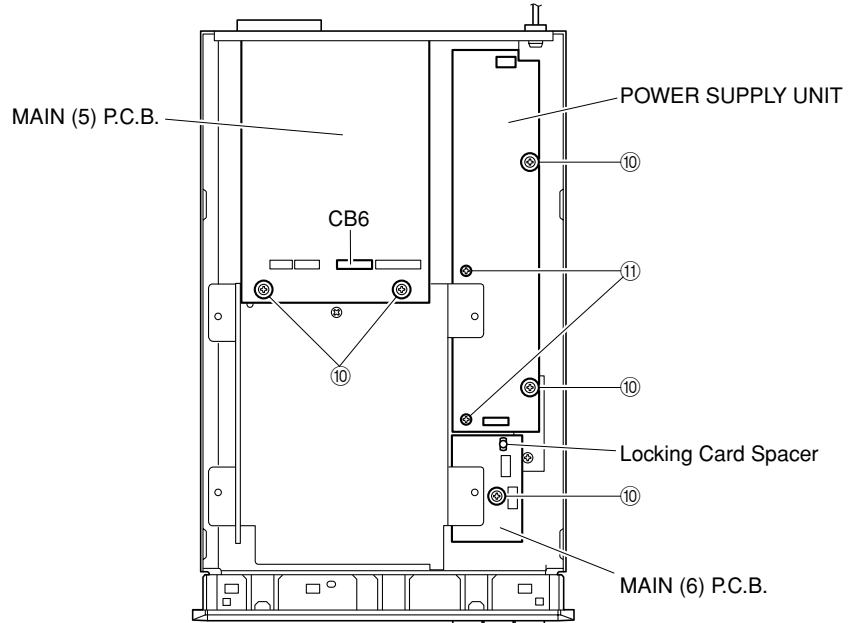

Fig. 5
- b. Remove 5 screws (10). (Fig. 5)
- c. Remove 2 screws (11). (Fig. 5)
- d. Loosen 1 Locking Card Spacer. (Fig. 5)
- e. Remove the MAIN (5), MAIN (6) P.C.B. and POWER SUPPLY UNIT.